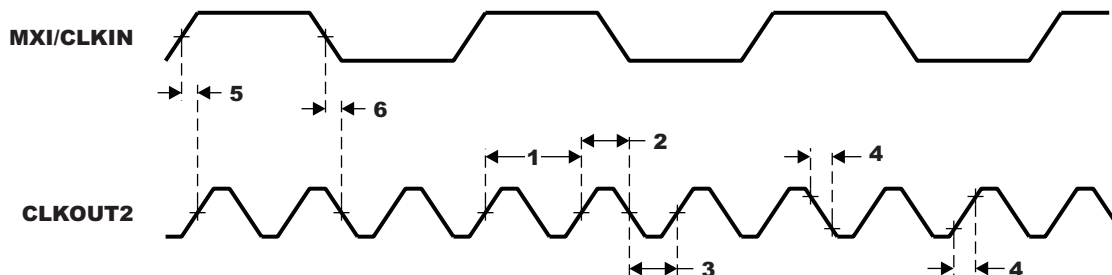

**Figure 5-9. CLKOUT1 Timing**
**Table 5-7. Switching Characteristics Over Recommended Operating Conditions for CLKOUT1(1)(2) (see Figure 5-9)**